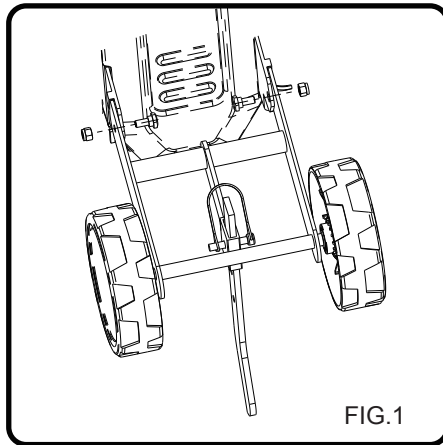

FIG.1
Step 1: Installing The Wheels.(See Fig.1)